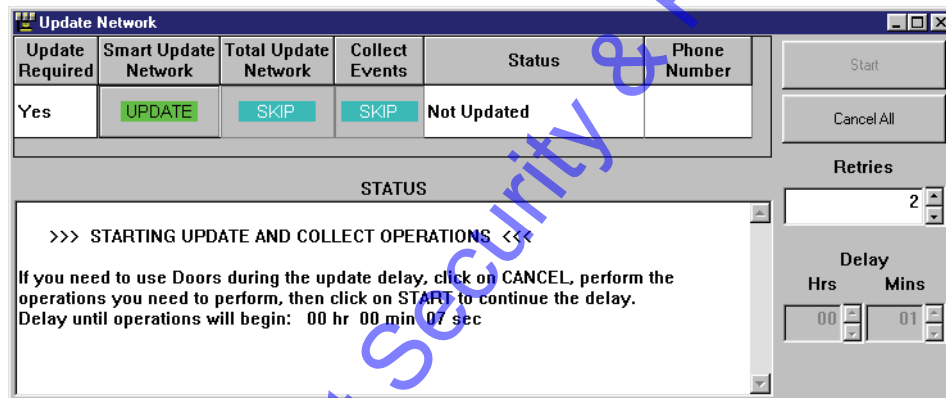

Figure 5-38: Delay Countdown Window
3. Click on the  button to begin the countdown until the update operation will begin. The progress of the countdown may be viewed through the Status windows (see Figure 5-38).